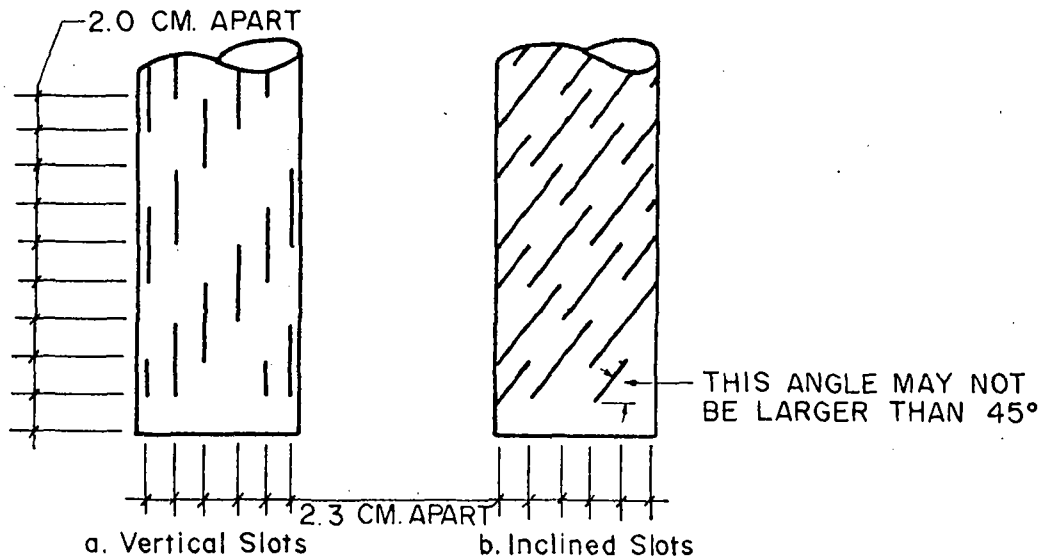

FIGURE 1.2
- 1.4.1 Perforation. See Fig. 1.2